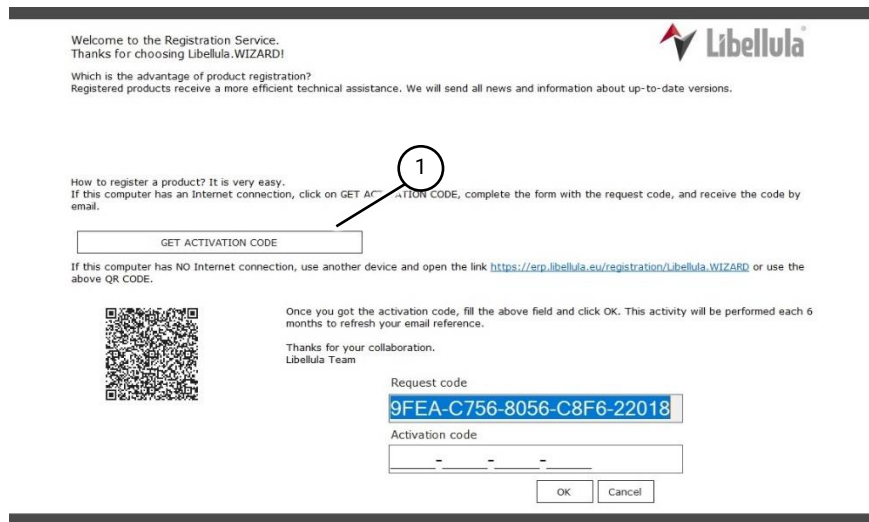

Fig 33 SwiftCAM activation screen
5. Select 'Get Activation Code' (Fig 33 (1)).